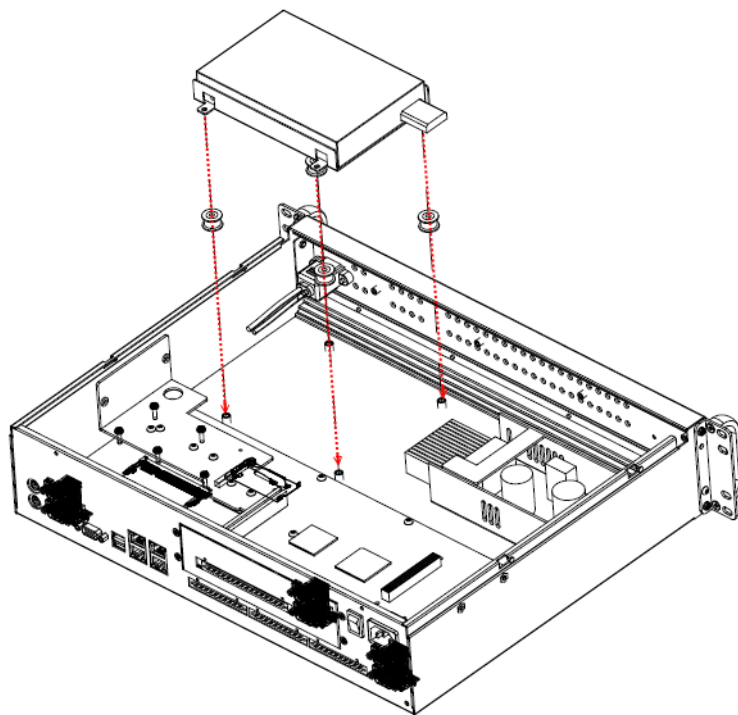

Figure 5.6 Return the shockproof bracket with HDD into system/ 将HDD 和防冲击支架放回系统中
5. Return the shockproof bracket with the HDD in the original position and fasten it with the four screws.(See Figure 5.6)